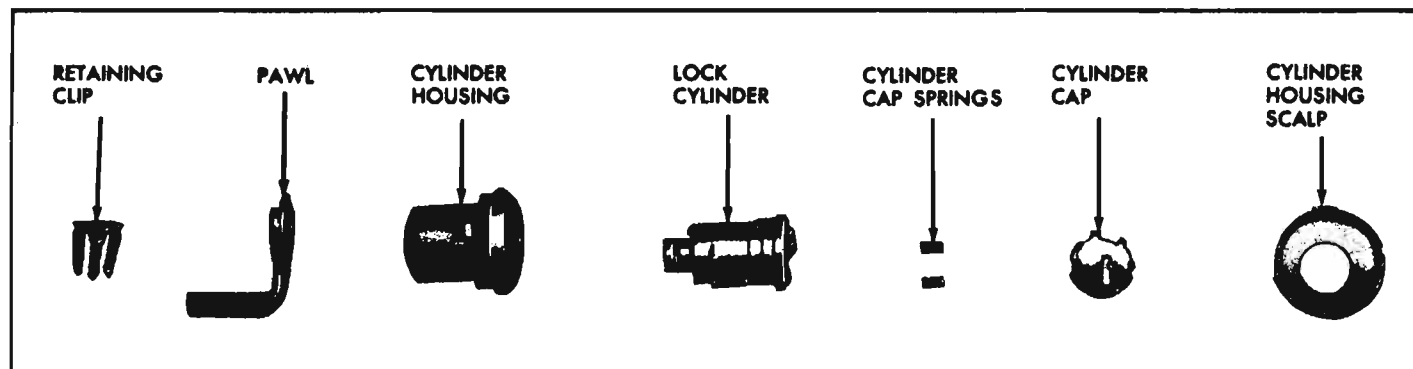

Fig. 10-56—Front Door Lock Cylinder Disassembled
2. With suitable tool, remove retaining clip and remove pawl (fig. 10-56).
NOTE: The locking cylinder housing scalp used in production is usually damaged when removed and must be replaced by a new scalp available as a service part. The service lock cylinder housing scalp is secured by tabs (see fig. 10-56).